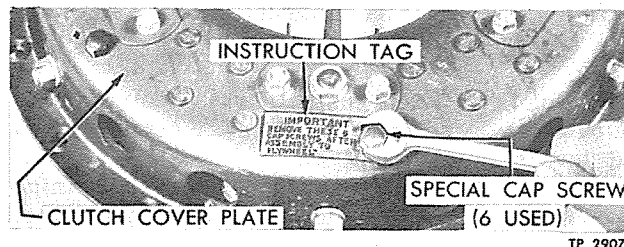

Figure 10—Clutch Instruction Tag and Special Bolts
4. Install six special cap screws (fig. 10) through holes in cover plate, starting each screw into tapped hole in pressure plate, then tighten special screws alternately and in gradual stages to compress springs (34) and bring threaded ends of yokes (18) into respective holes in cover plate. A pointed rod may be used to guide yokes through holes as cap screws are tightened. See that ends of springs (21) do not catch on under side of cover as special screws are tightened.
5. Thread adjusting nuts (19) onto yokes (18) so that end of yoke is approximately flush with top of nut.
6. Install adjusting nut thrust plates (20), tightening plate retaining nuts firmly.
7. Clutch assembly is now completely built up and ready to be assembled to flywheel. Special cap screws should remain in place until cover to flywheel screws have all been installed, then they must be removed to allow clutch springs (34) to operate.
1. Put driven disc (4) in place against flywheel (38) with short end of splined hub toward flywheel. Use aligning arbor (CS-1182) or old clutch shaft to hold assembly in position.
2. Place clutch assembly in position against flywheel and install cap screws (36) using new lock washers. Tighten screws securely.
3. Remove special cap screws (fig. 10) previously installed to facilitate clutch installation. These screws must be removed before clutch will engage.
4. Adjust nuts (19) on yokes (18) so that contact points of release levers (22) are within dimensional limits when measured from straight edge laid across outer face of clutch cover (33).